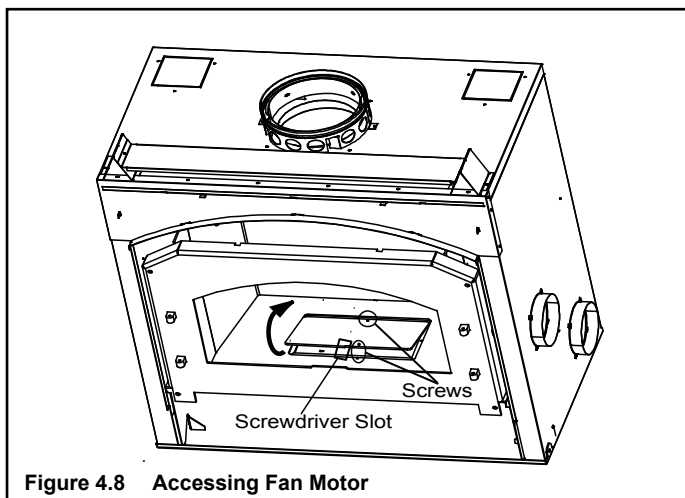

Figure 4.8 Accessing Fan Motor
- Remove the two screws from the access panel in the firebox floor. See Figure 4.8. Pry up panel with screwdriver and remove panel.